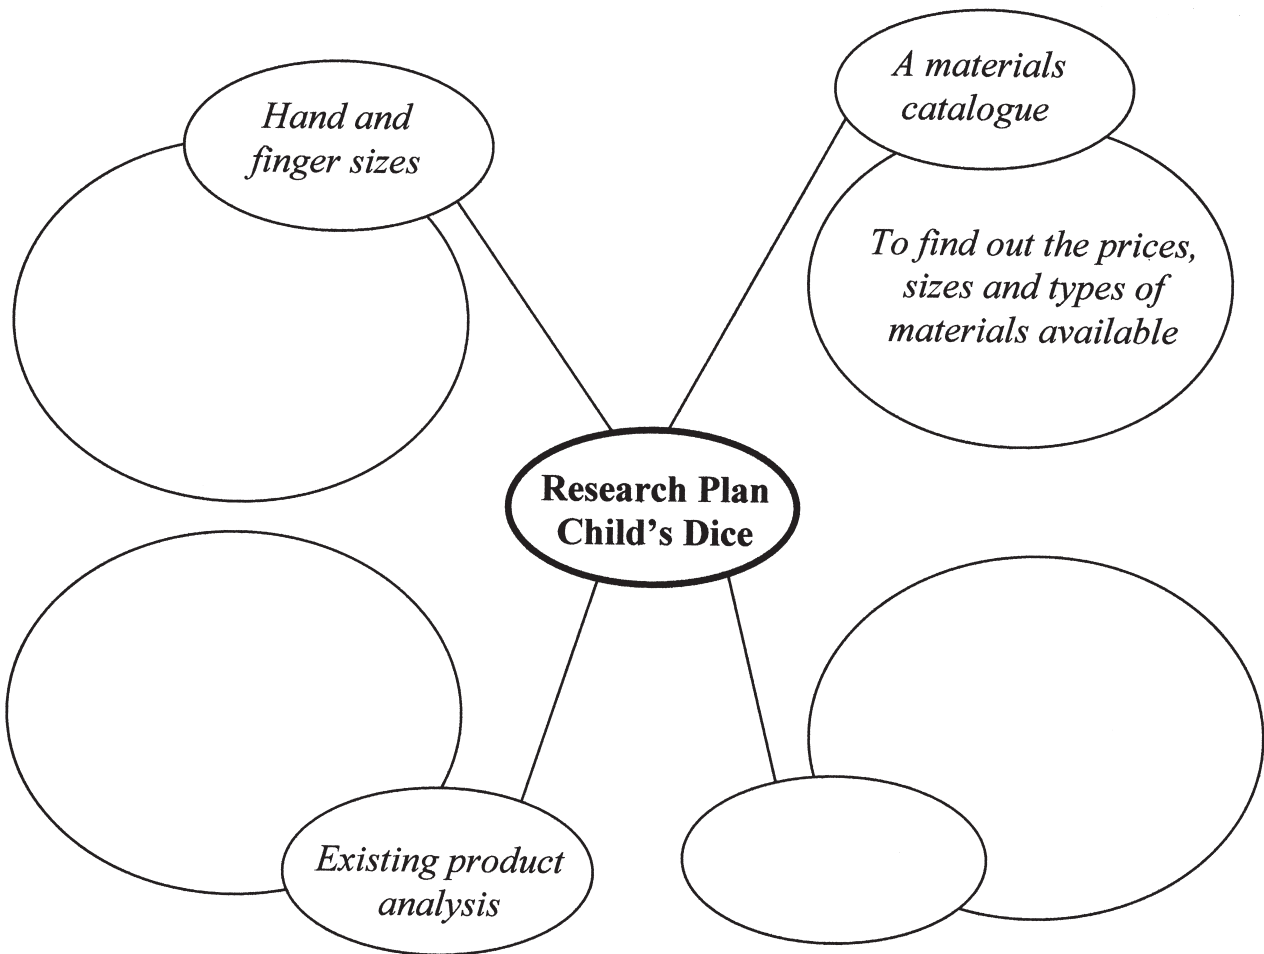

Figure 4
The layout of a research plan for the electronic dice is shown in **Figure 4**.
- (b) Complete **Figure 4** by adding suitable research sources and stating the information that you would hope to find. (7 marks)